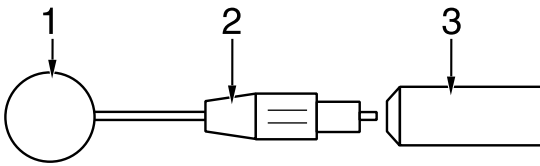

Figure 18-1. Inserting the spoon electrodes
- Screw the counter nut **2** (Figure 18-1) onto the electrode as far as it will go.